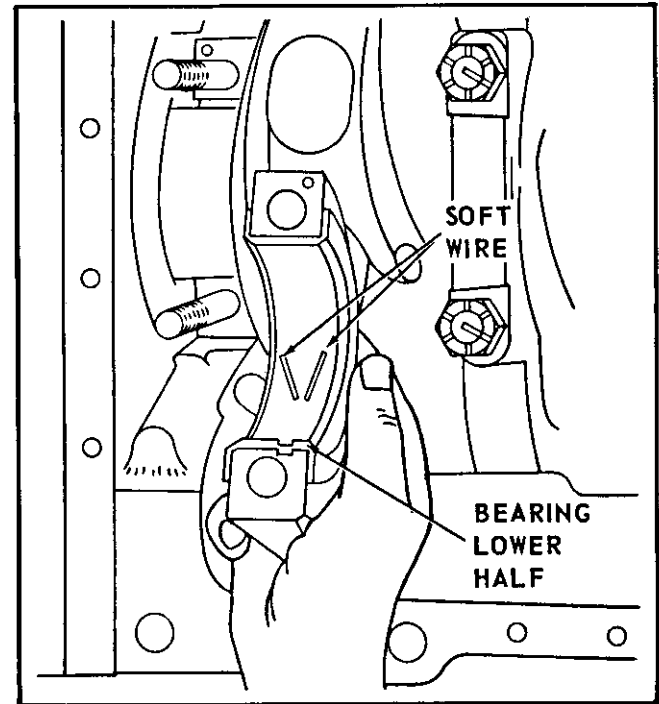

Figure 2-19. Main bearing clearance check
2. Assemble lower bearing halves in main bearing caps. Coat wire lightly with grease to hold them on bearing and place two pieces of wire on each bearing lower half as shown in figure 2-19.